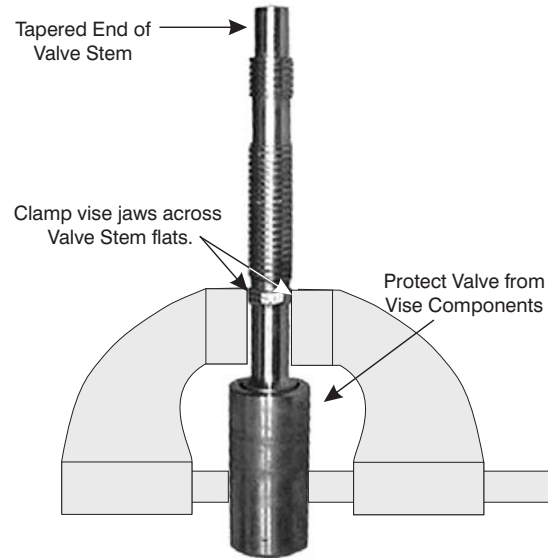

Figure 9-16. Valve Stem in Vise
1. Position the assembled Valve Stem (4), Bushing (5) and Valve (4) in a vise with the threaded and tapered end of the Valve Stem (4) above the jaws and the Valve (6) below the jaws, as shown in Figure 9-16.
2. Be sure the Valve (6) does not get caught in or interfere with vice components below the jaws.
3. Clamp the vise jaws firmly across the flats of the Valve Stem (4) as shown in Figure 9-16.